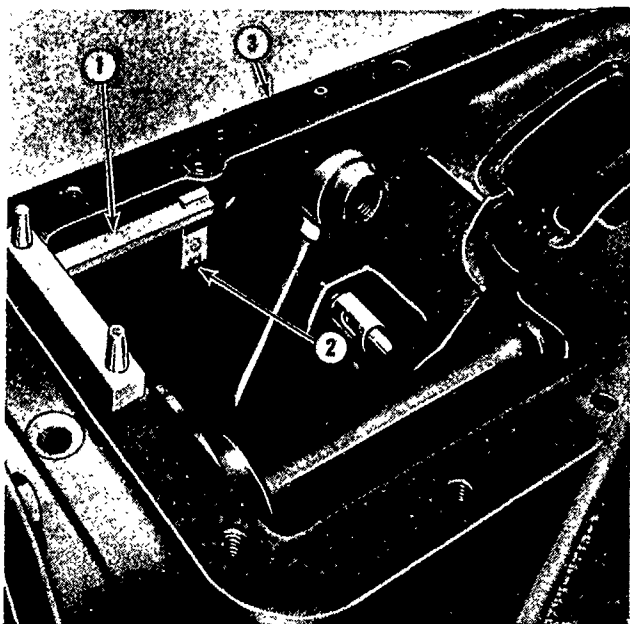

Figure 16
1. Install Tool No. SW 862-A or SW 25 on the rear axle center housing. Refer to Figure 16 or 17.